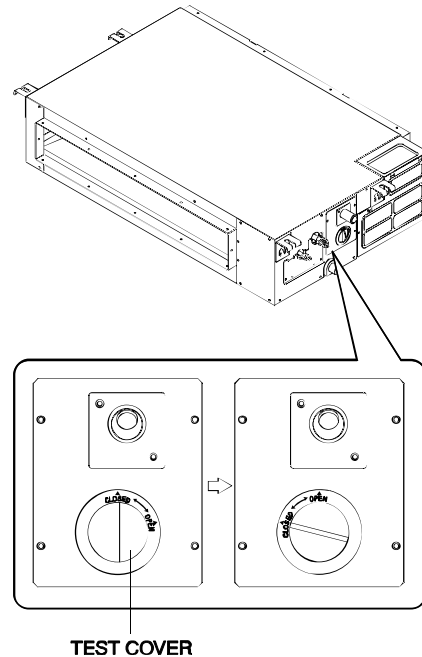

Fig. 49 —Check the Bends and Joints for Leakage
1. Remove the test cover by rotating it counter-clockwise (see Fig. 49).